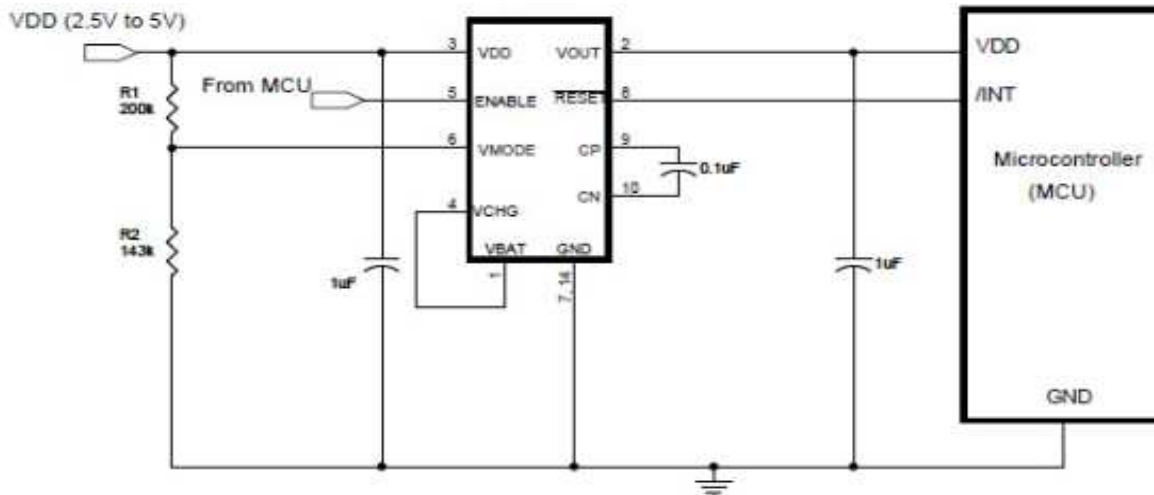
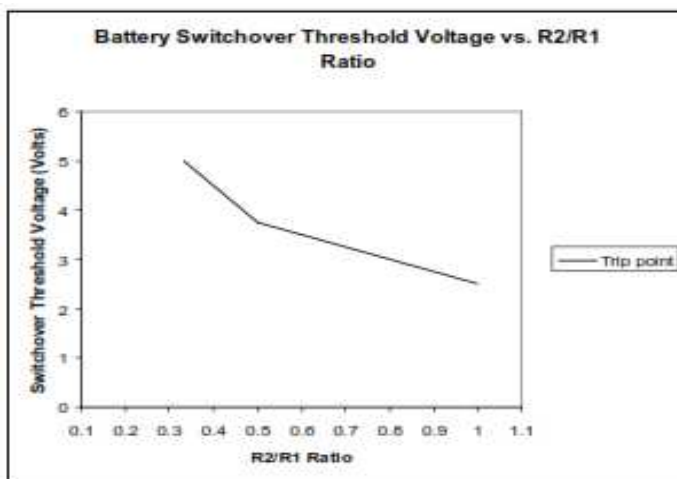
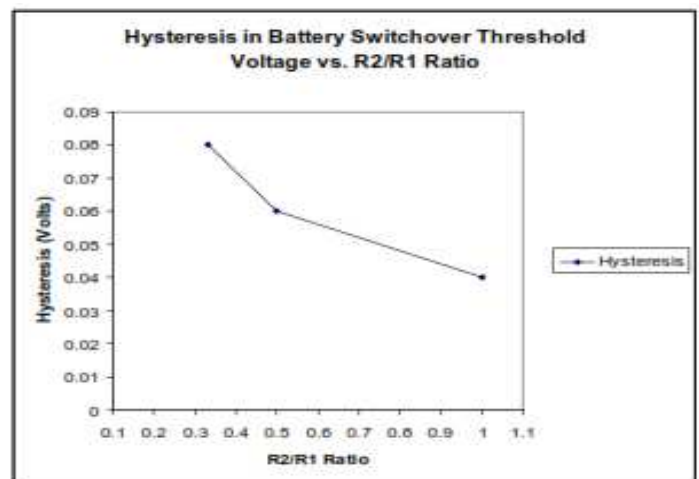

Figure 7: CCBC3112 Typical Circuit for Mode 2 Operation
Figure 8. Mode 2 Resistor Selection Graph
Figure 9. Mode 2 Hysteresis as a Function of R2/R1
(2) Users- selectable trip voltage can be set by placing a resistor divider from the V_{MODE} pin to GND. Refer to Figure 8.
(3) The hysteresis is a function of trip level in Mode 2. Refer to Figure 9.
Figure 7 shows the circuitry for user-selectable switchover threshold to a value between 2.5 and 5.0 volts. Use Figure 8 to determine the value of R1. To determine the amount of hysteresis from the EnerChip™ switchover threshold, use Figure 9.
EnerChip™ charging and backup power switchover threshold for 2.5 to 5.5 volt operation is selected by changing the value of R2 (see Figure 7). To determine the backup switchover point, set the value of R1 to 200kΩ and choose the value of R2 according to Figure 8. For example, to set a 3.0V trip point: If R1=200 kΩ then R2 = R1 x 0.72 = 144kΩ. Figure 7 shows a Mode 2 circuit with standard value resistors of 200kΩ and 143kΩ.
To determine the backup switchover hysteresis for Mode 2 operation, use Figure 9.